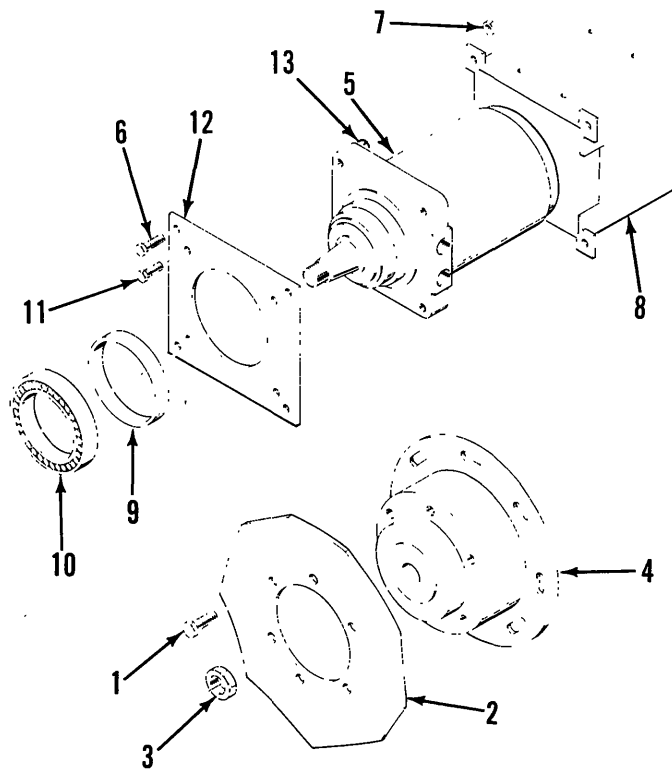

Figure 5-13. Drive Motor Removal (Standard)
a. Removal (Figure 5-13).
(1) Park the machine on firm level ground then block the wheels to prevent the machine from rolling.
(2) Use a 1.5 ton capacity jack to raise the desired rear corner.
(1) Refer to Figure 5-13 and position the plate (12) on the drive motor (5).
(2) Install capscrews (11) and tighten securely. Torque the capscrews to 35 to 45 lb./ft.
(3) Position the drive motor (5) within the axle housing (8) and secure with capscrews (6) and nuts (7) and tighten securely.
(4) Install bearing (10) in the brake disc or hub (4).
(5) Install spacer (9) and the brake disc (4) on the drive motor (5) and secure with nut (3). Torque to 300 to 400 lb./ft.
(6) Remove the plugs from the hose assemblies and connect to the drive motor (5).
(7) Position the wheel (2) on the brake disc or hub and install the wheel cap screws (1). Torque to 80 to 90 lb./ft.
(8) Lower the jack a sufficient amount to allow its removal then operate the drive system and check for leaks.